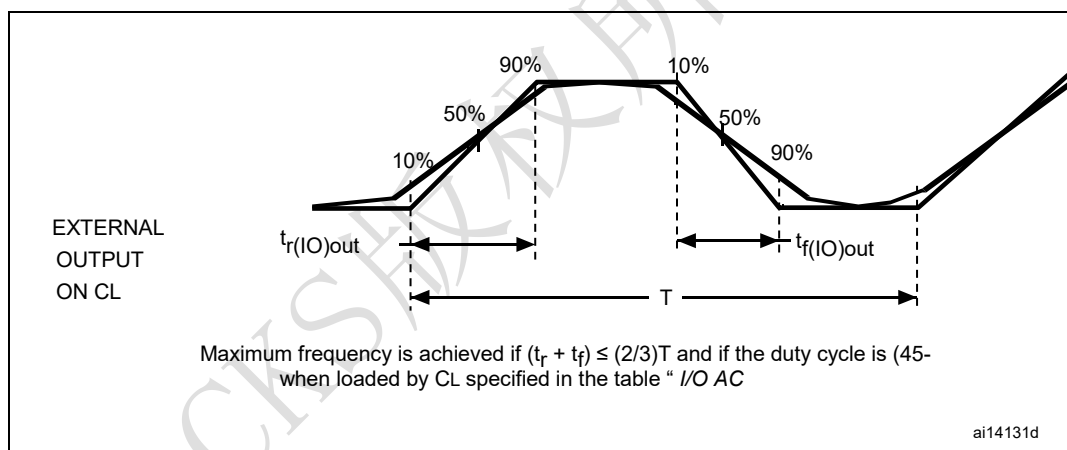

Figure 37. I/O AC characteristics definition
The definition and values of input/output AC characteristics are given in Figure 37 and Table 50, respectively.
3. The maximum frequency is defined in Figure 37.